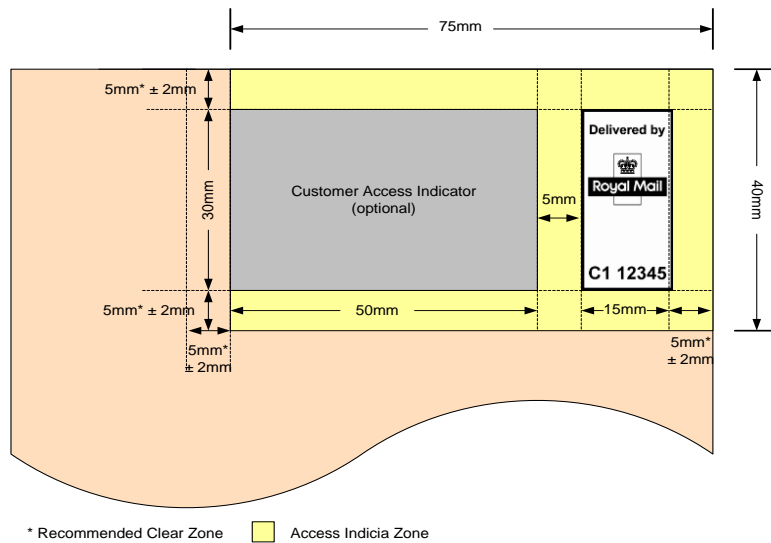

Figure 3: Indicia positioning and size (large)
- An example of the Royal Mail Access Indicator is shown below at Figures 3 and 4 demonstrating the characteristics and positioning requirements when applying a large or small Royal Mail Access Indicator. Our Indicia page of our Website also provides details of the mandatory print and design specifications for the two sizes available and positioning requirements of the Royal Mail Access Indicator on all Mailing Items. A copy of the actual Indicium template, which you must comply with, will be available to you (once your Credit Account has been set up) to download from the Website. You must get our written approval for all designs and subsequent design changes. We require at least two months’ written notice of design proposals prior to any requested implementation date. You may not use any designs before we have given you our written approval. This notice period allows us to carry out technical testing and other approval procedures.
- The Customer Access Indicator is optional for you to use on Mailing Items but there are design and location constraints. Figures 3 and 4 below demonstrate the size and positioning requirements when using either a large or small Customer Access Indicator.